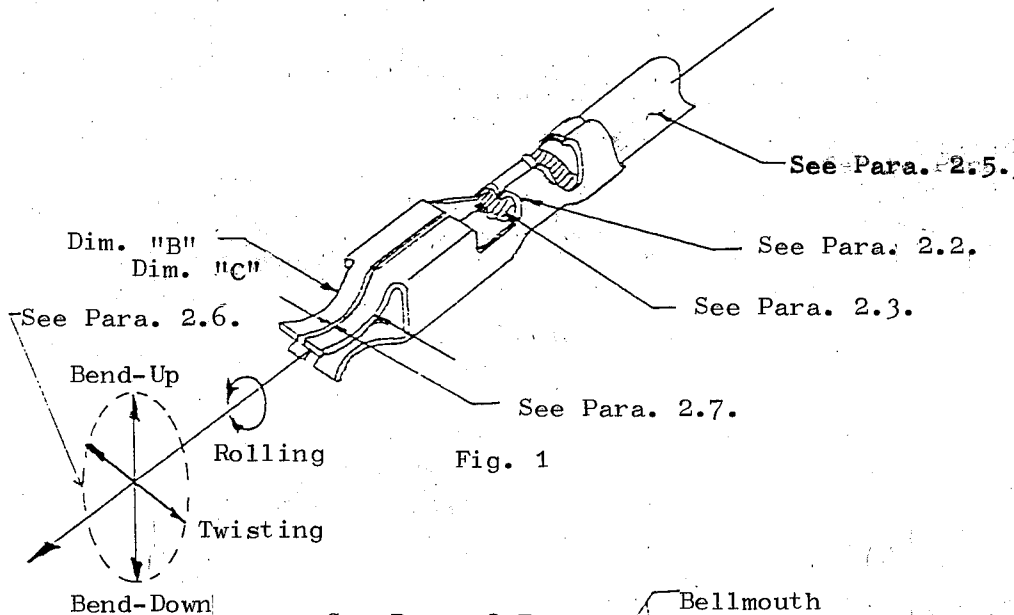
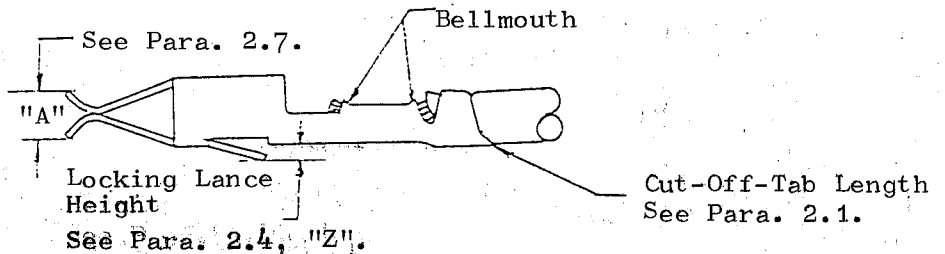

Fig. 1
Fig. 2
1.1 This specification is applied to the portions as indicated in Fig. 1 and Fig. 2.
1.2 The nomenclature used in this specification shall be according to the terms as shown in Fig. 1.